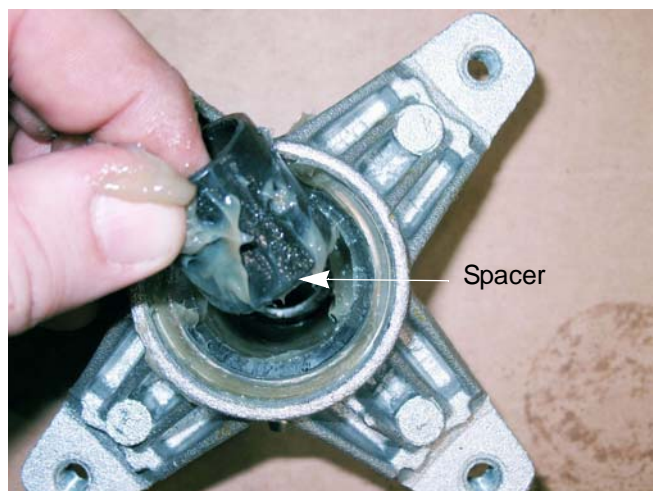

Figure 8.19
6. Remove the spacer. See Figure 8.19.